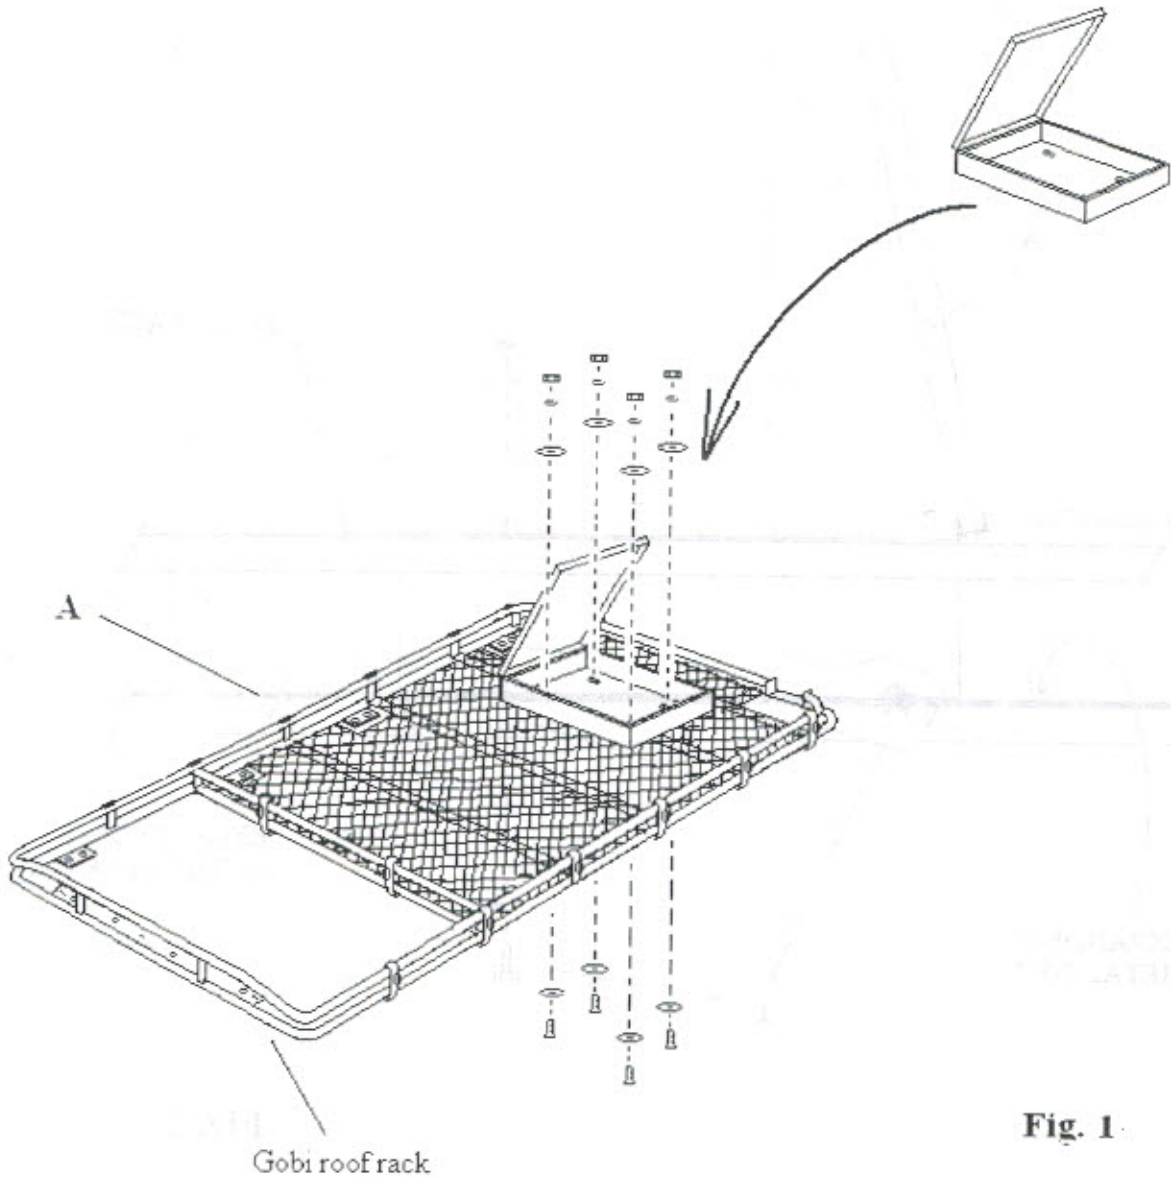

Fig. 1
- 3- Open the lid of the Gobi tool box and place the tool box in the preferred location of your choice as shown in Fig. 1 page 3. Align tool box on the expanded metal deck so that the 4 elongated holes at the bottom of the tool box align with the expanded metal deck diamond shaped openings below.